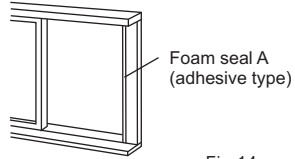

Fig. 14
1. Cut the foam seal(adhesive type) to the proper length and attach it to the window frame, Fig. 14.